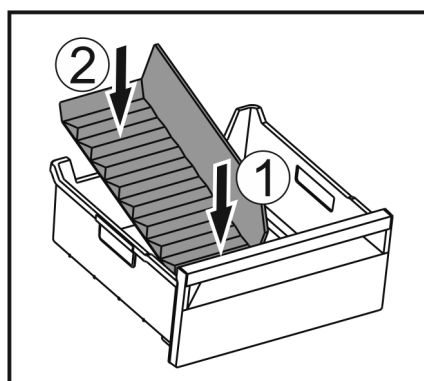

Fig. 162
- Insert the front part of the ice compartment divider. Fig. 162 (1)
- Lower the rear part of the ice compartment divider to the drawer bottom. Fig. 162 (2)